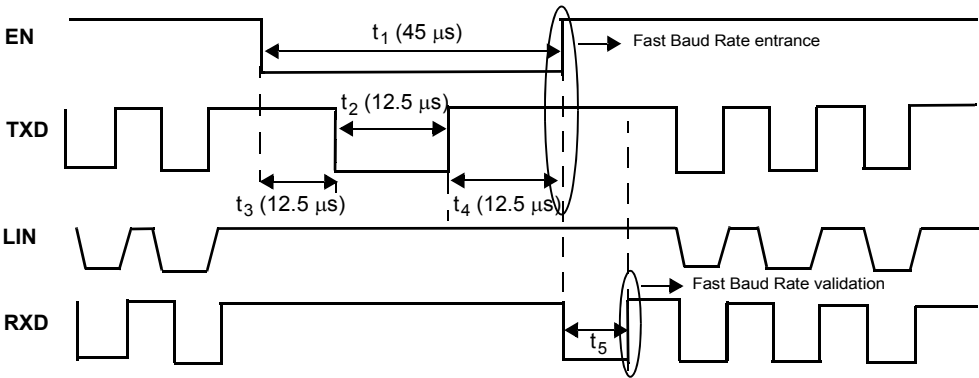

Figure 22. Fast Baud Rate Selection (Toggle Function)
31. See Figure 22 and 23
The Fast Baud Rate selection is reported by the RXD pin. Fast Baud Rate is activated by the toggle function (See Figure 22). At the end of the toggle function, just after EN rising edge, RXD pin is kept low for  $t_5$  to flag the Fast Baud Rate entry (See Figure 22).
A combination of the logic levels on the EN and TXD pins allows the device to enter into the Fast Baud Rate mode of operation (see Figure 22).
The device enters into the Fast Baud Rate if the delay between Step 1 to Step 5 is 45  $\mu$ s maximum. The toggle function is described in Figures 22. Once in Fast Baud Rate, the same toggle function just described previously is used to bring the device back into Normal Baud Rate.
Fast Baud Rate selection is reported to the MCU by RXD pin. Once the device enters in this Fast Baud Rate, the RXD pin goes at low level for  $t_5$ . When the device returns in Normal Baud Rate with the same toggle function, the RXD pin stays high. Both sequences are illustrated in Figures 22 and 23.